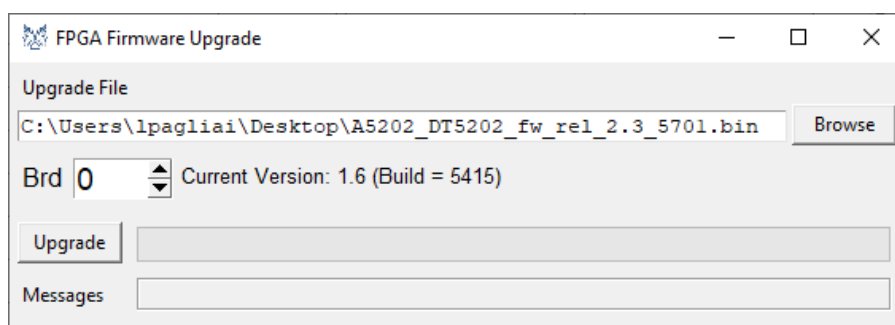

Fig. 11.3: FPGA Firmware Upgrade window with the new FPGA firmware file path visualized.
4. Once the selection is finished, the file location is displayed on the "Upgrade File" field, as in Fig. 11.3.